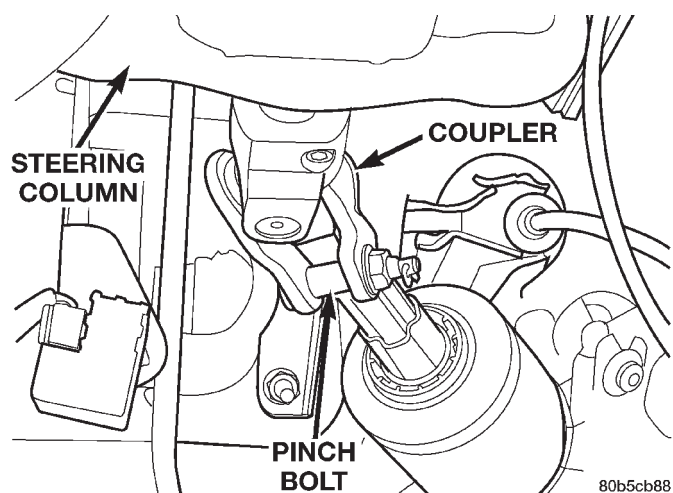

Fig. 22 Steering Column Coupler
(10) Remove the retaining pin and the coupler bolt from the steering column coupler (Fig. 22). Separate the intermediate steering shaft from the steering column coupler.
(16) Install the intermediate shaft onto the steering column shaft. Install steering column coupler pinch bolt (Fig. 22) and tighten to a torque of 28 N·m (21 ft. lbs.). Install the pinch bolt nut retaining pin in pinch bolt.